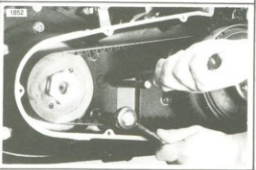

Figure 6-13. Primary Belt Adjustment
5. See Figure 6-13. Carefully insert a screwdriver, or similar tool through hole in housing. Pry against crankcase to increase tension on belt.